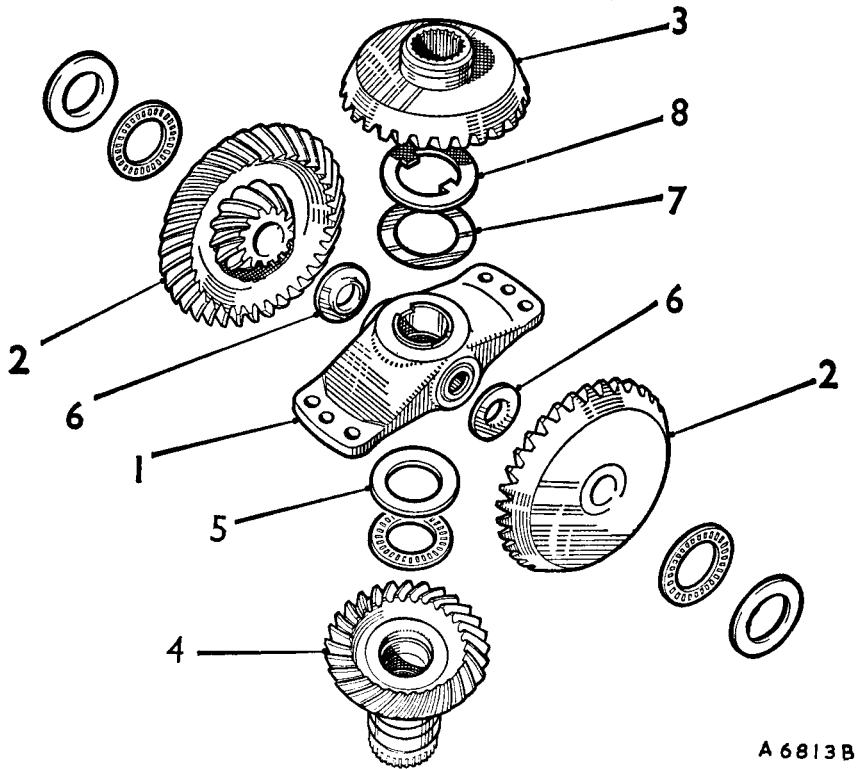

Fig. Fa.52
20. Assemble the forward output gear with its bi-metal washer and the .004 in. (.10 mm.) shim (if fitted) interposed between the bi-metal washer and the carrier (see Fig. Fa.52).